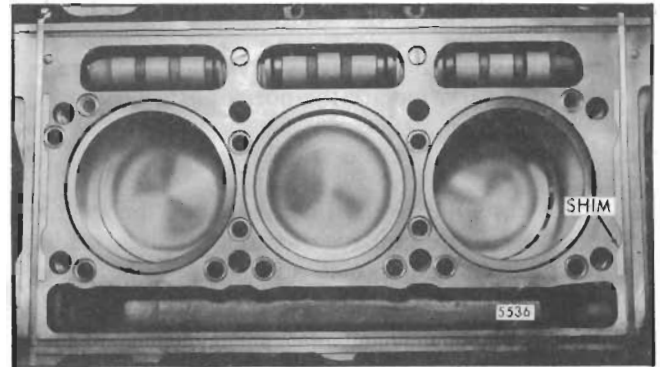

Fig. 9 - Cylinder Head Support Shims in Place
- b. To prevent end cylinder head bolt breakage, support shims (Fig. 9) are attached at each end of the cylinder block (two per cylinder bank). Remove the adhesive paper and place the support shims, adhesive side down, in position at each end of the cylinder block.